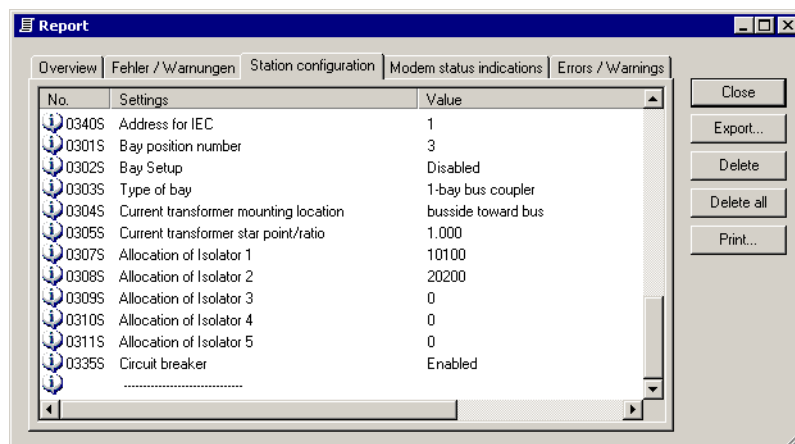

Figure 4-37 Evaluation protocol (report) when exiting the configuration – Example
- ❑ Subsequently click **OK**. The evaluation protocol (report) (Figure 4-37, page 89) opens when you exit the Plant Configuration.